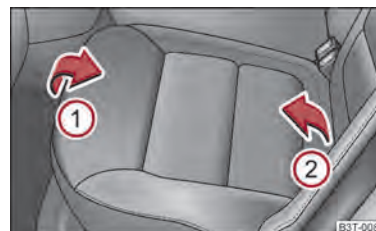

Fig. 62 Folding the seat cushion forwards
- Pull up the seat cushion in direction of arrow ① ⇒ fig. 62 and fold forwards in direction of arrow ②.